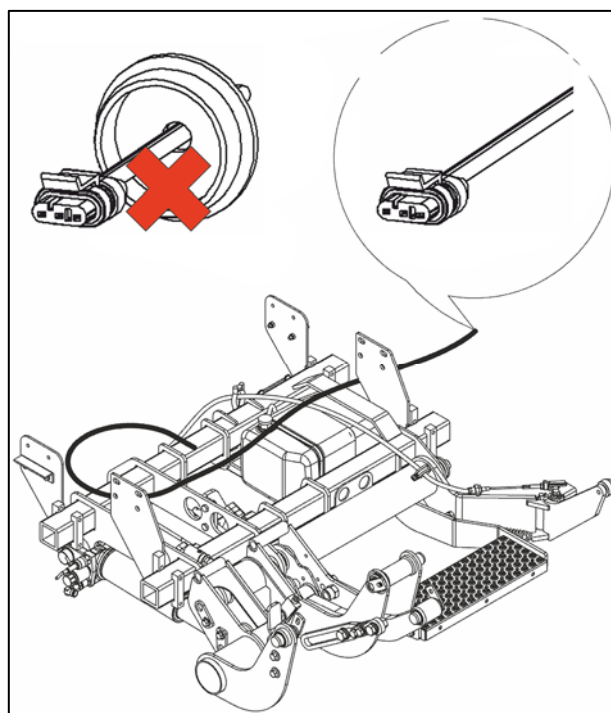

Fig. 20
- Route the Control Unit cable for Control panel connection to the right as viewed in the forward direction of travel (see Fig. 20).